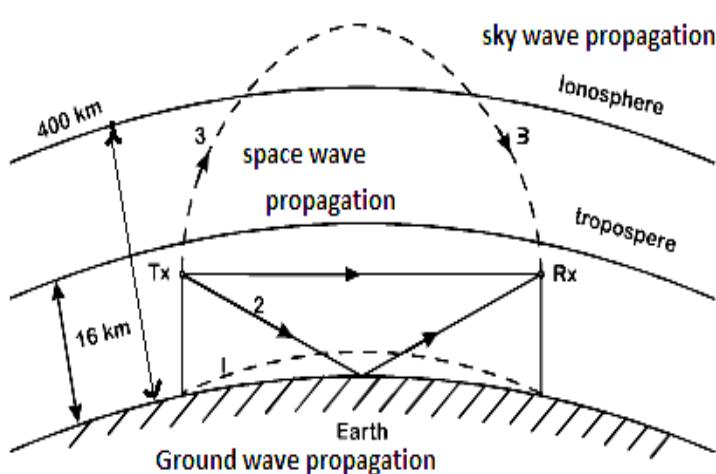

Fig.1.36 Various modes of radiowave propagation
In sky wave propagation radio wave is reflected back to earth from ionized region in the upper atmosphere called ionosphere as shown in fig. 1.36 (path (3).